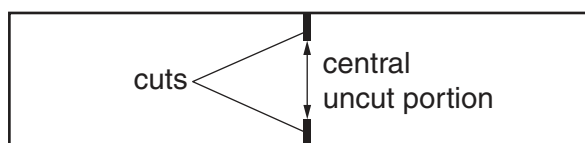

Fig. 2.1
- Half-way along each strip there should be two cuts as shown in Fig. 2.1.